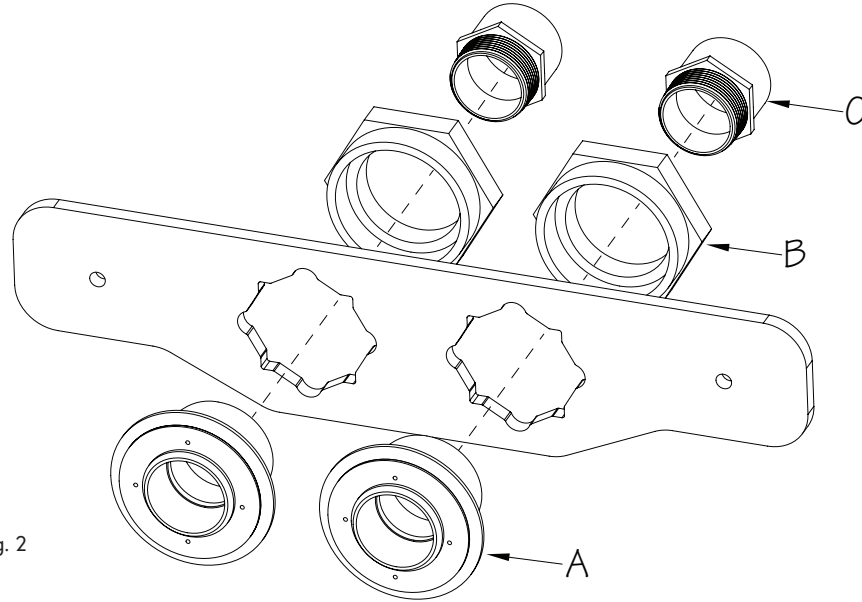

Fig. 2
1. Insert the Star Thru Wall Fittings (A) in the openings of the Mounting Bracket, making sure the holes around the perimeter of the fittings are oriented in the 12, 3, 6, and 9 o'clock positions as shown.
Thread the Locknuts (B) onto the fittings from the backside of the bracket. Apply Teflon tape or sealant to the threads of the FSlip x MPT Adapters (C) and then thread the Adapters into the Star Thru-Wall Fittings (Fig. 2).